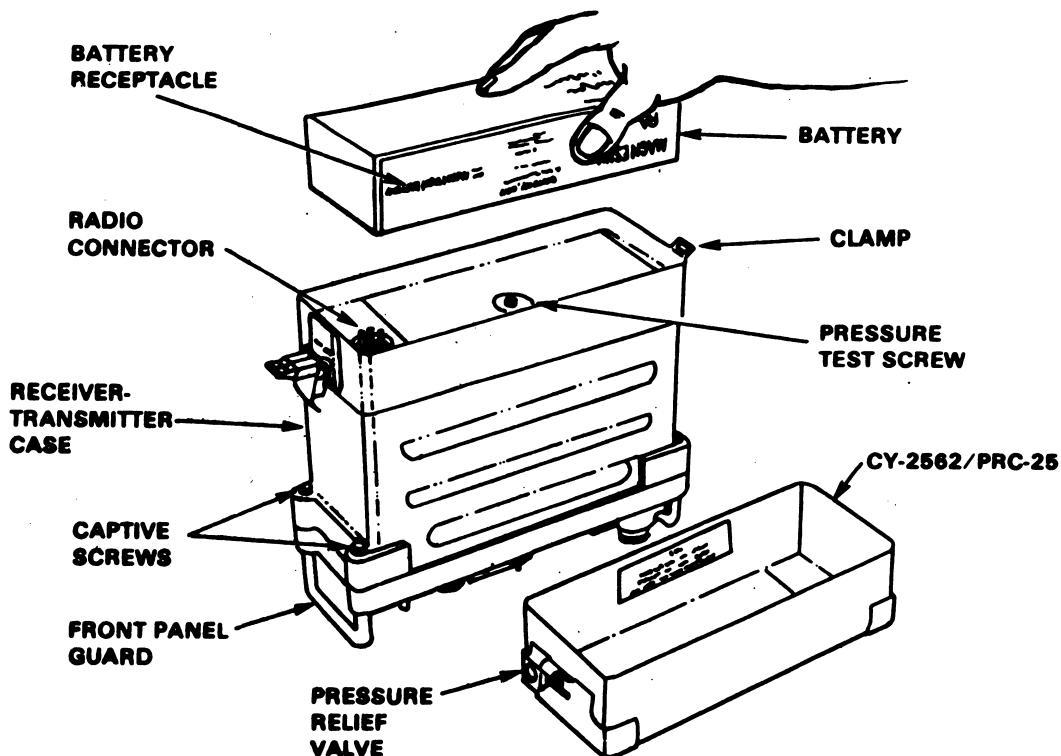

Figure 2. Installing battery in receiver-transmitter.
2. Installation of Battery (fig. 2) (TM 11-5820-667-12, chap 2, page 2-4, para 2-4).
- d. Place battery in battery box as shown in figure 2.